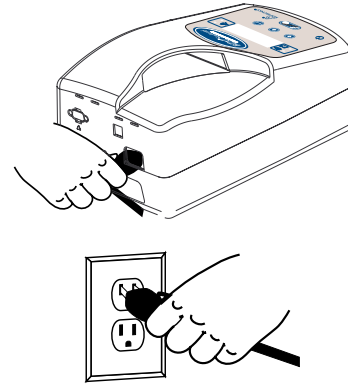

Figure 4-7 Plugging in the AC
- STEP 1** Plug the receptacle end of the AC cord into the AC inlet of the Synchrony as shown in Figure 4-7.
- STEP 2** Insert the plug end of the AC cord into the wall outlet as shown in Figure 4-7.